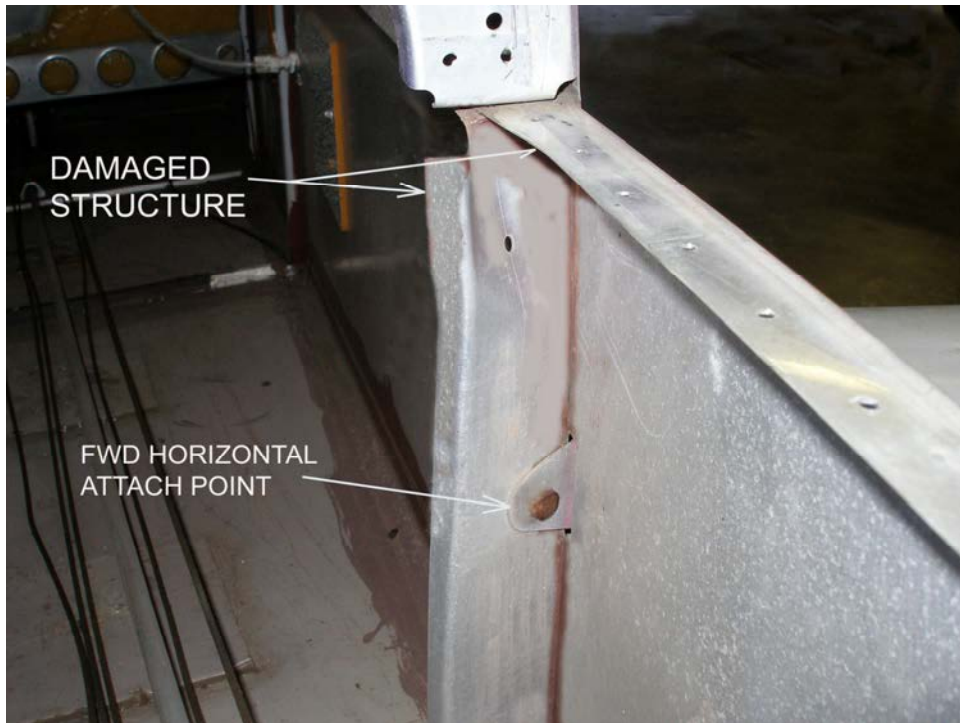

FIGURE 3
3. Remove the forward horizontal stabilizer spar attach bolts. (Figure 3)